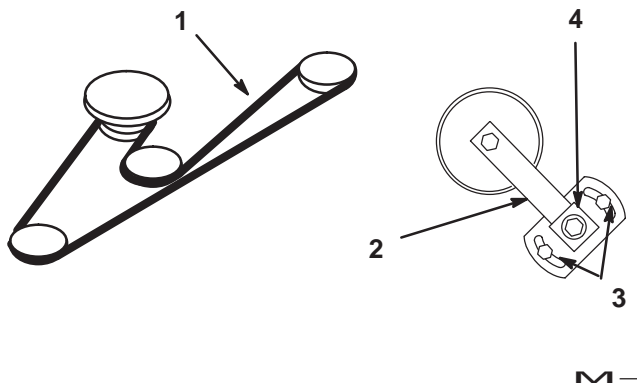

Figure 59
3. Loosen two nuts securing idler plate and move the idler arm to relieve belt tension on the idler pulley, then remove the worn deck belt (Fig. 59).
4. Install the new deck belt around the spindle pulleys, belt guide, the idler pulley, and in the lower groove of the center spindle pulley (Fig. 59).